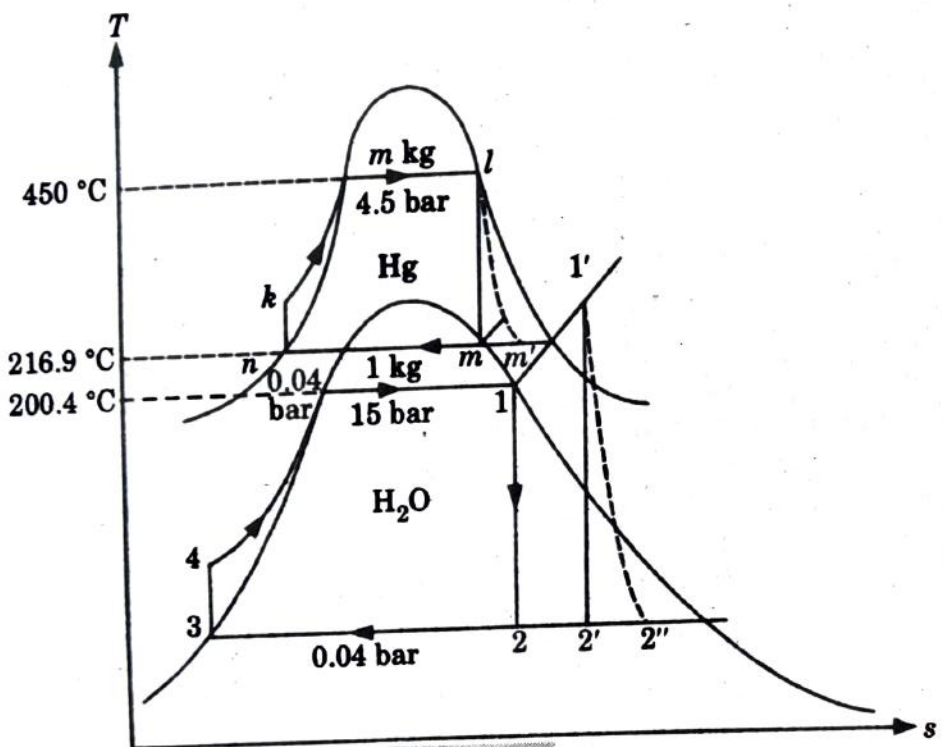

Fig. 2.15.1.
5. Layout for combined cycle is shown in Fig. 2.15.1 consists of following processes :